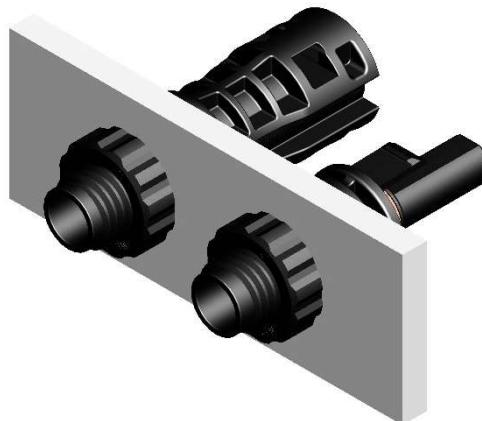

Figure 17
- ◇ 安装公/母面板连接器时，推荐用 2.0 N.m 的扭矩锁紧螺母。具体情况，需要由终端用户根据不同的面板验证合适的扭矩(如图 17)。
When installing the male or female panel connector, it is recommended to use 2.0 N.m torque lock nut. The appropriate torque has to be verified in the end use according to the respective housing (Fig.17).